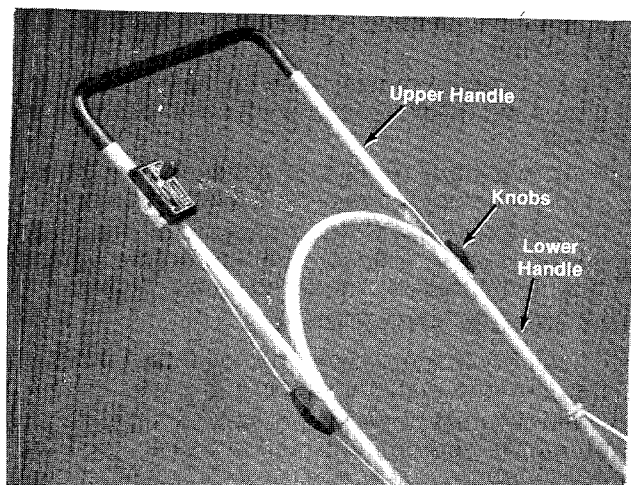

FIGURE 2
4. Assemble the upper handle to the lower handle with the two knobs. Make sure the single hole for the throttle is on the right hand side of the handle. The knobs can be either to the inside or the outside of the handle. (See figure 2.)
5. Assemble the throttle control to the upper handle with the nut and bolt. (See figure 2.)